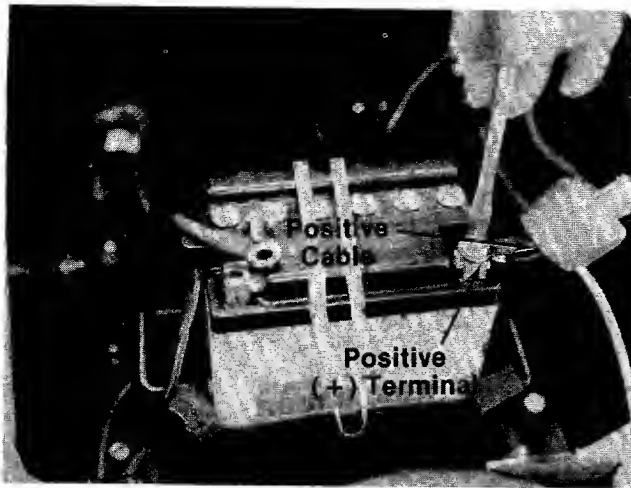

FIGURE 13.
13. Slide the square nut (provided with battery hardware) into the positive (+) terminal. Slide the rubber boot back which is on the positive cable. Place the positive (heavy red wire) cable and the small red wire (with a fuse holder in it) on the positive terminal. Secure with screw and lock washer provided. See figure 13.